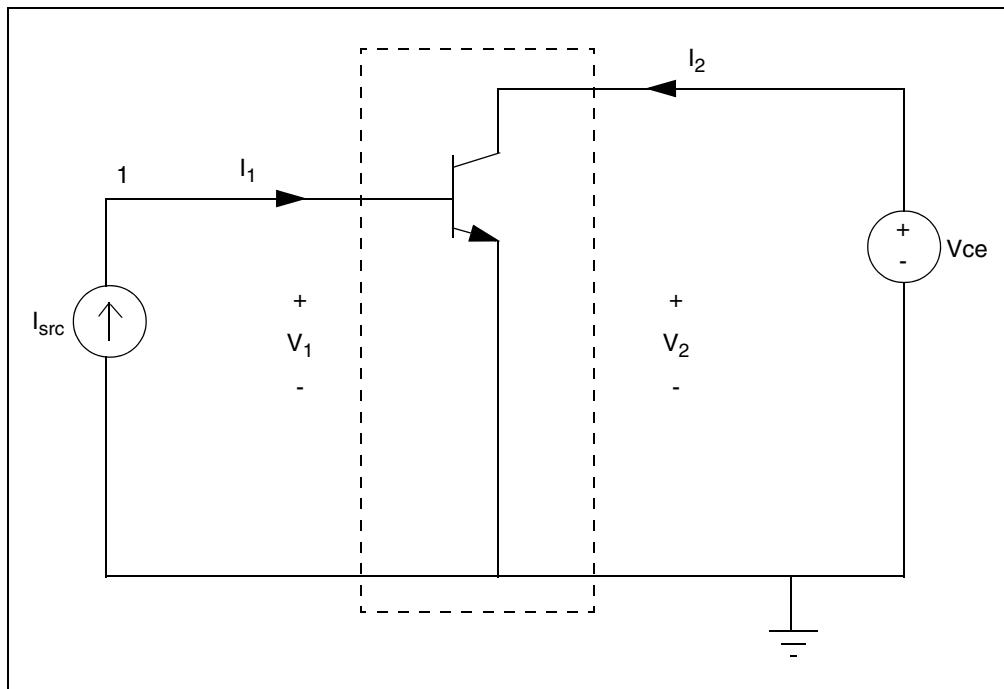

Figure 293 Parameters with .NET V(2) Isrc
**Note:** The preceding list does not mean that you must use combination (1) to calculate Z parameters. However, if you specify .NET Vout Isrc, HSPICE or HSPICE RF initially evaluates the Z matrix parameters. It then uses standard conversion equations to determine S-parameters or any other requested parameters.
**Figure 293** shows the importance of variables in the .NET statement. Here, Isrc and Vce are the DC biases, applied to the BJT.